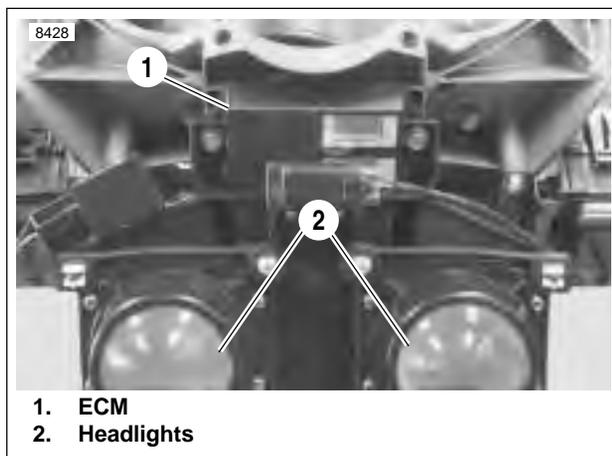

Figure 4-17. Electronic Control Module
1. See Figure 4-17. If the lamp goes off when the black ECM connector [10] is unplugged, the BK/Y wire is **not** shorted to ground.